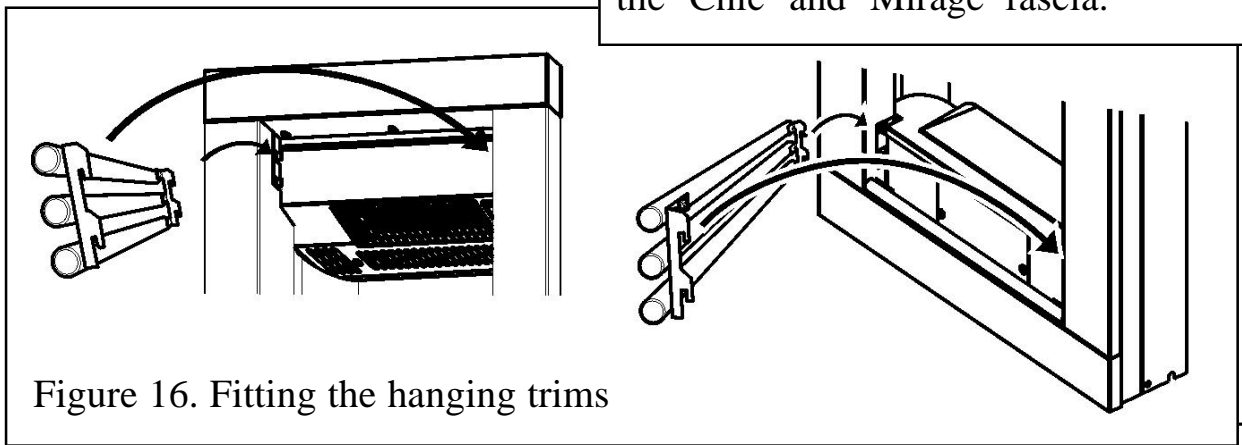

Figure 16. Fitting the hanging trims
2. Supplied in the fascia pack are two tubular trim sets. Hang one set at the top of the fascia and the other at the bottom (See figure 16).
3. Supplied in the fascia pack is a three bar trim. Hang this at the bottom of the fascia (See figure 16).